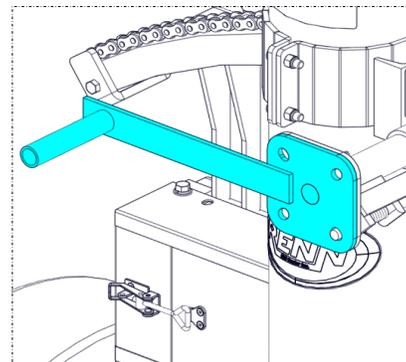

Figure 4.18
- 2) Turn the crank assembly handle in either direction to adjust the angle of the discharge auger (Figure 4.18).